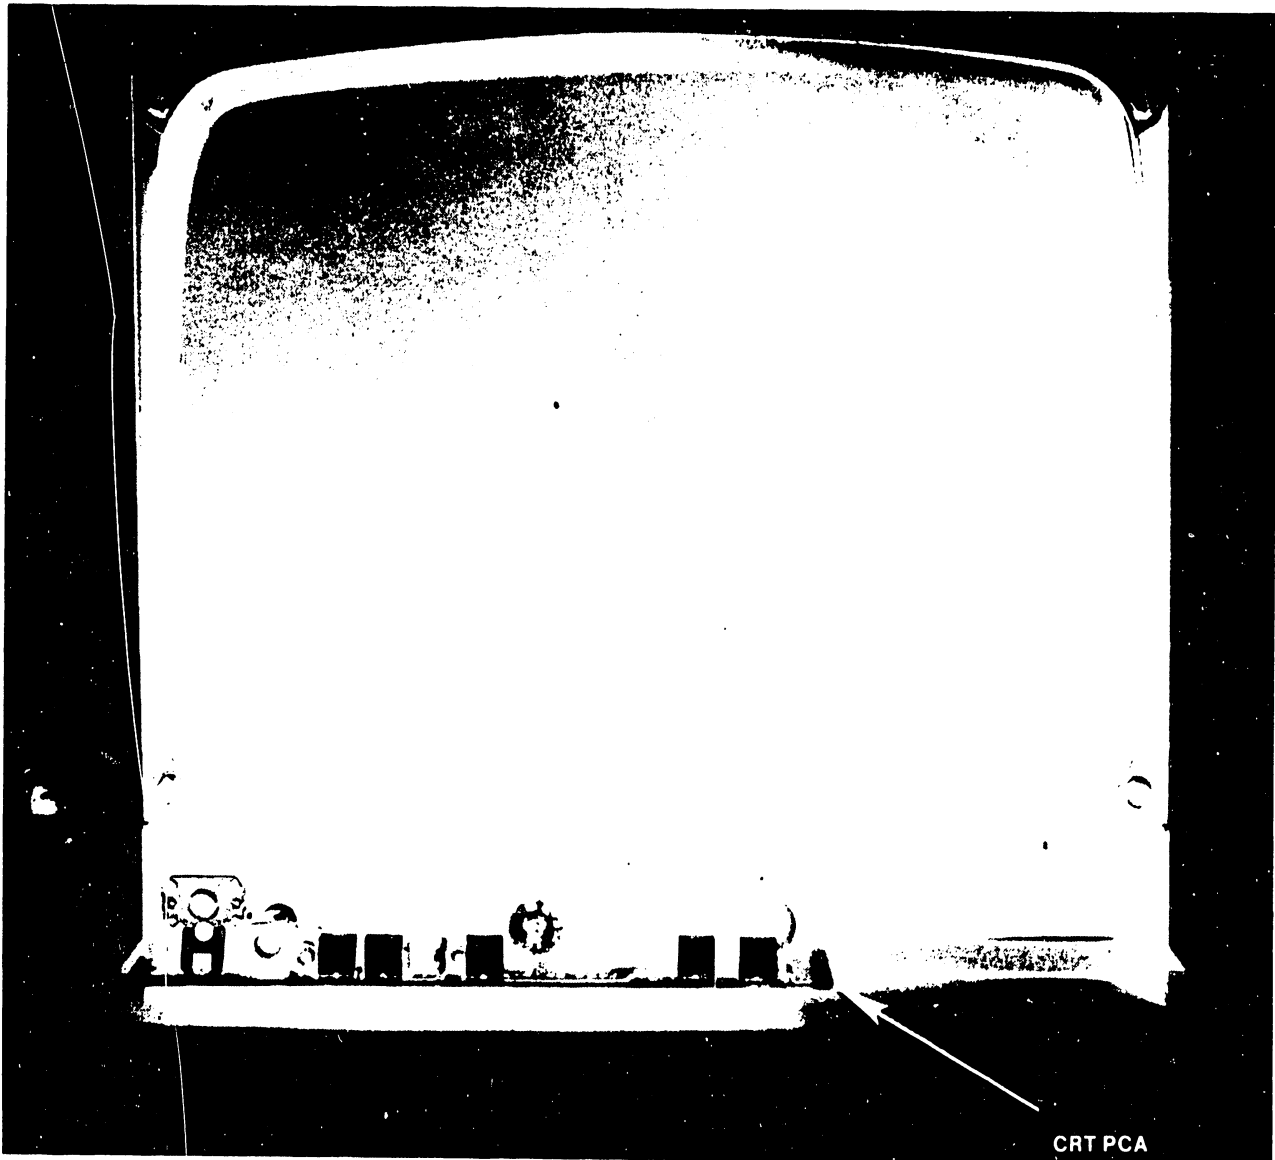

Figure 5-9. CRT PCA Removal/Replacement
5.2.2.6 CRT PCA Assembly (Figure 5-9)